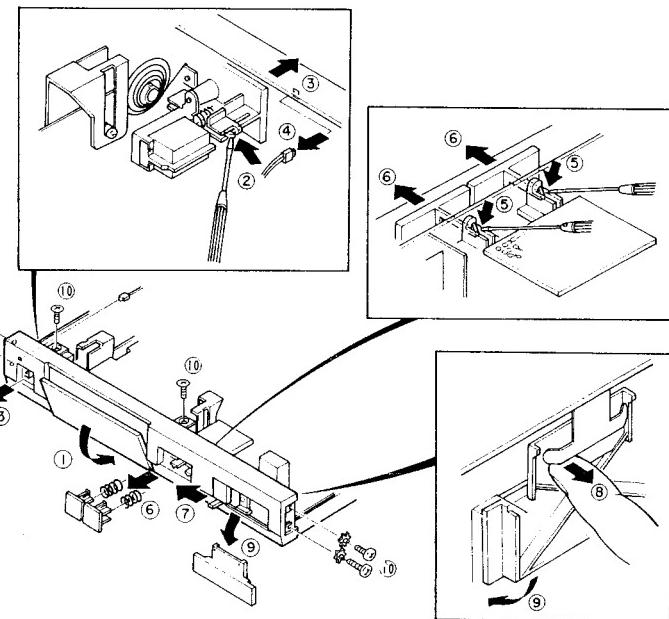

Fig. 3 How to remove knobs and panel (1)
2. Push down the pocket door till it locks underside the unit. (Fig. 3- ①)
3. Push the pawl of the power switch knob into the groove of the escutcheon. (Fig. 3- ②)
4. Pull out the power switch knob. (Fig. 3- ③)
5. Remove the LED (Fig. 3- ④)
6. Remove the TAPE and PHONO/OTHERS knobs. (Fig. 3- ⑤, ⑥)
7. Slide the PRESET LEVEL knob to 0 position (Minimum position). (Fig. 3- ⑦)
8. Lightly lift the ends of the copper plate retaining FADER knob alternately and drag the knob out little by little in the direction of the arrow. The copper plate may come off when center of the plate is lifted. (Fig. 3- ⑧, ⑨)
9. Remove the screws from the front panel (Fig. 3- ⑩ .); Top: 2 screws, Both side: 2 screws each.